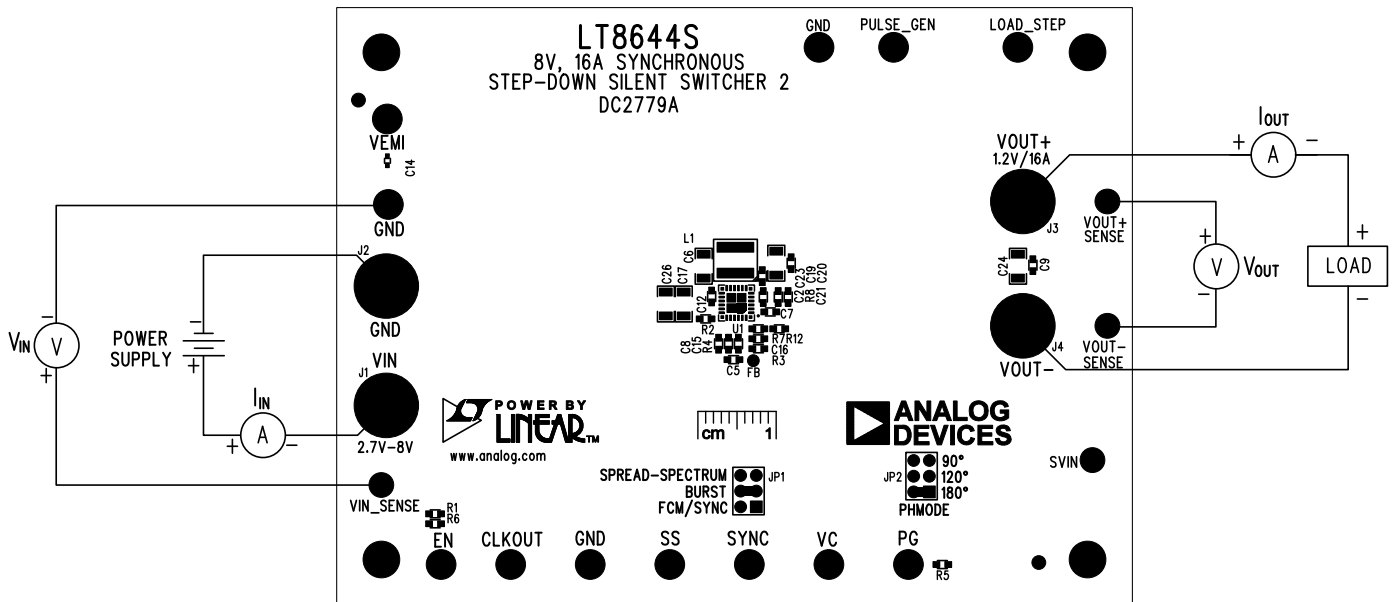
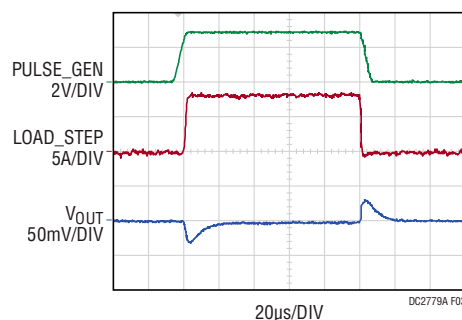

Figure 1. Proper Measurement Equipment Setup
Figure 3. LT8644S Demo Circuit DC2779A Transient Response ($V_{IN} = 5V$, 4A to 12A Load Step)
Demonstration circuit 2779A is easy to set up to evaluate the performance of the LT8644S. Refer to Figure 1 for proper measurement equipment setup and follow the procedure below:
9. To test the transient response, connect a signal generator to PULSE GEN terminal, and add a desired base load between V_{OUT+} and V_{OUT-} (LOAD shown on Figure 1). Adjust the signal generator with a 2ms period, 5% duty cycle and an amplitude from 1V to 2V to start. Measure the LOAD STEP voltage to observe the current ($I_{LOADSTEP} = V_{LOAD_STEP}/10\text{m}\Omega$). Adjust the amplitude of the pulse to provide the desired transient. Adjust the rising and falling edge of the pulse to provide the desired ramp rate. Figure 3 shows a load step from 4A to 12A. The 4A base load is added between V_{OUT+} and V_{OUT-} , while the 8A step load is controlled by the signal generator at PULSE_GEN and measured at LOAD_STEP with 0.01V/A ratio.